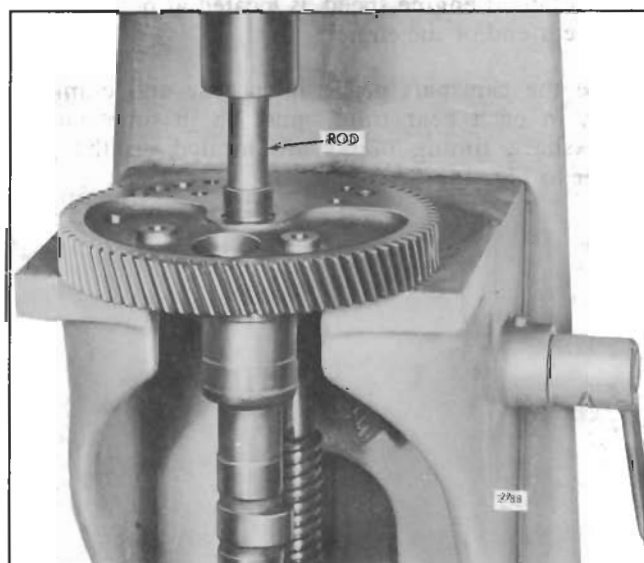

Fig. 3 - Removing Camshaft Gear
2. Place one of the camshaft and gear assemblies in an arbor press as shown in Fig. 3.